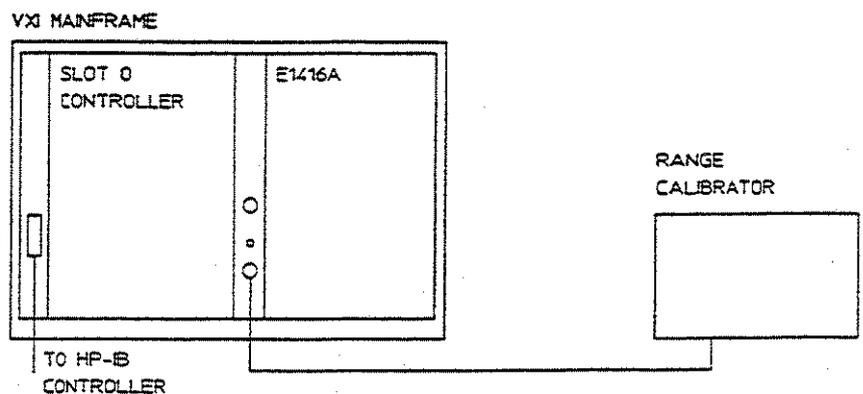

Figure B-2. Instrument Accuracy Test Setup
1. Connect all equipment as shown in Figure B-2 and switch on the equipment.